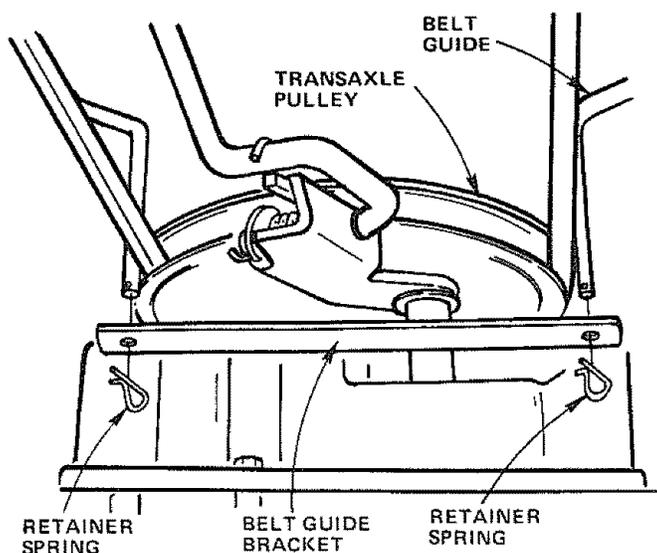

FIGURE 26
- b. Remove two retainer springs from belt guide bracket below transaxle pulley. Remove bracket (Fig. 26).
- c. Swing belt guides away from belt, toward rear of tractor (Fig. 26).